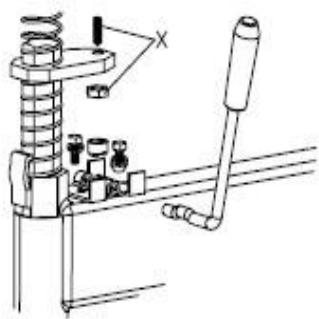

Fig. 17
If hexagonal vertical arm not be locked or not meet the requirement that 2-3 mm from the bottom of mounting/demounting head to rim, please adjust hexagonal locking plate, refer to figure 17 and adjust the (X).